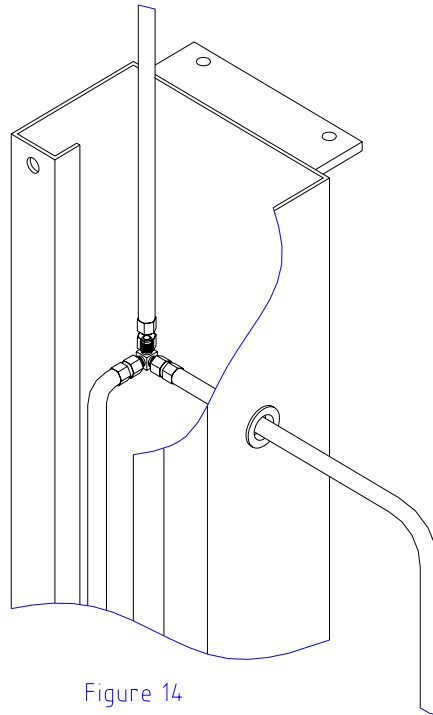

Figure 14
- E. To prevent the carriages from rubbing the hose, pull the hoses upward taking out any slack between the cylinder fitting port and the cylinder mount. Secure the hoses to the mainside cylinder with wire tie around the tee and the cylinder, **the tee should be positioned to aim directly out through the grommet, figure 14.** Secure the hose to the offside cylinder at approximately the same height with a wire tie.